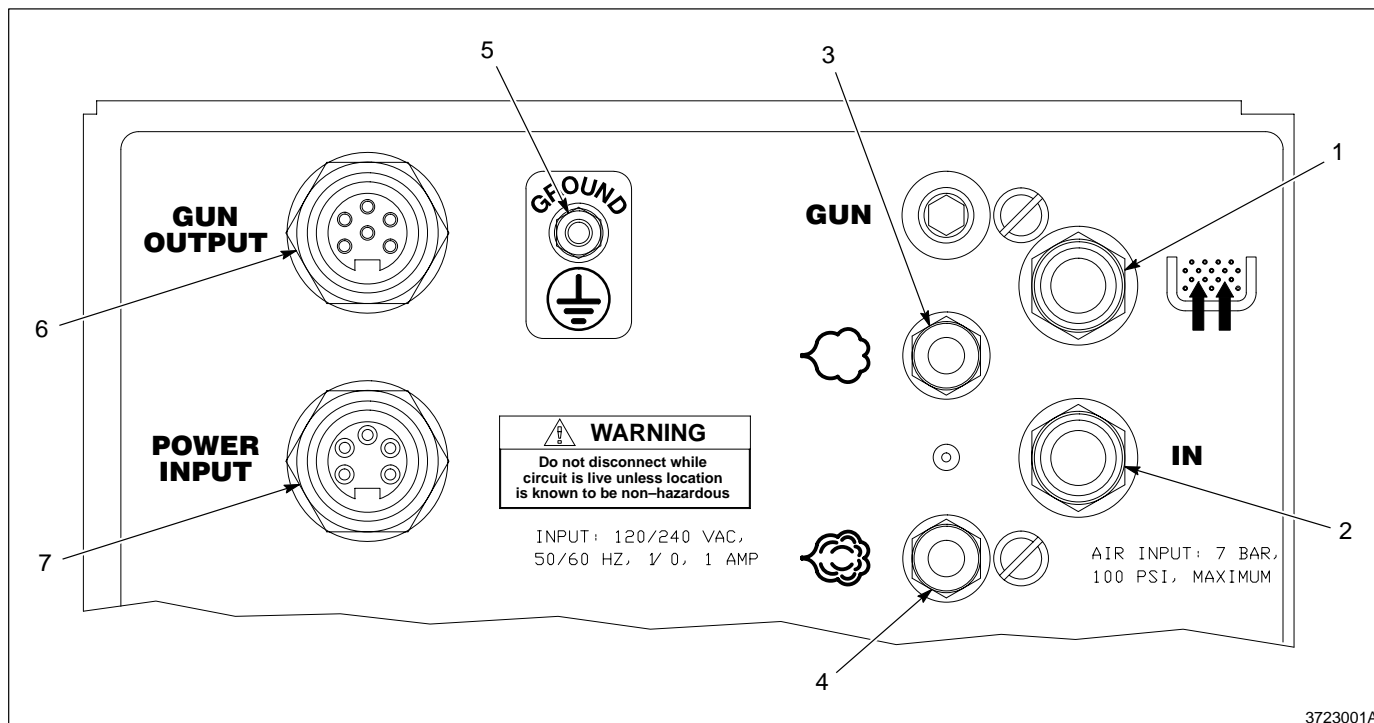

Fig. 1 Control module connections
3. Connect the gun, pump, and hopper to the control module. Refer to Table 1 and Figure 1 for the connection points and their functions. Item numbers correspond to callouts in Figure 1.